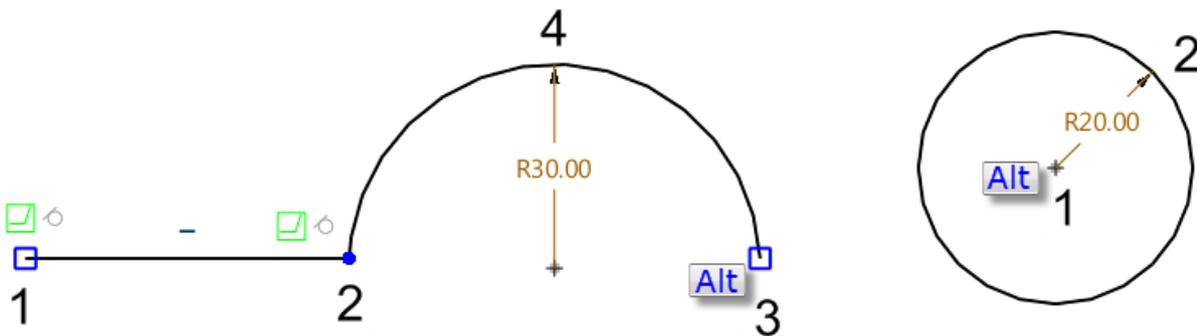

Figure 35 Create a Circle/ Arc with Quick Draw
STEP 03 Middle-click when you want to terminate Quick Draw. See the Figure 35.